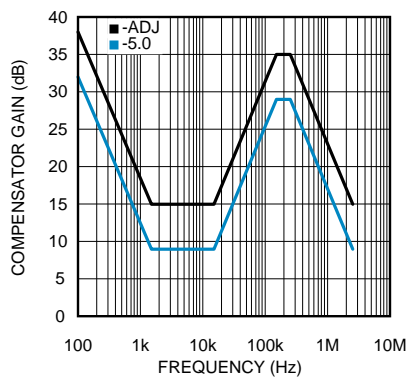

Figure 20. Compensator Gain
The complete transfer function for the regulator loop is found by combining the compensation and power stage transfer functions. The LM22670 has internal type III loop compensation, as detailed in Figure 20. This is the approximate "straight line" function from the FB pin to the input of the PWM modulator. The power stage transfer function consists of a D.C. gain and a second order pole created by the inductor and output capacitor(s). Due to the input voltage feedforward employed in the LM22670, the power stage D.C. gain is fixed at 20dB. The second order pole is characterized by its resonant frequency and its quality factor (Q). For a first pass design, the product of inductance and output capacitance should conform to the following equation: